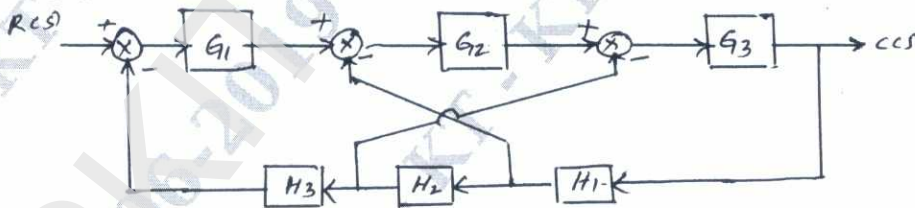

Fig.Q.4(b)
b. For the block diagram shown in Fig Q.4(b) obtain the overall transfer functions. Draw the signal flow graph and verify the transfer functions using Mason's gain formula. (10 Marks)